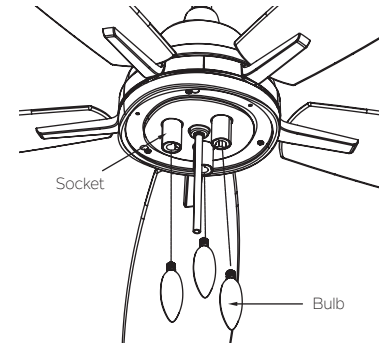

Fig. 22
**Step 3.** Insert 4-watt max LED bulbs (included) into each socket. When necessary, replace with bulbs of the same wattage. (Fig. 22)